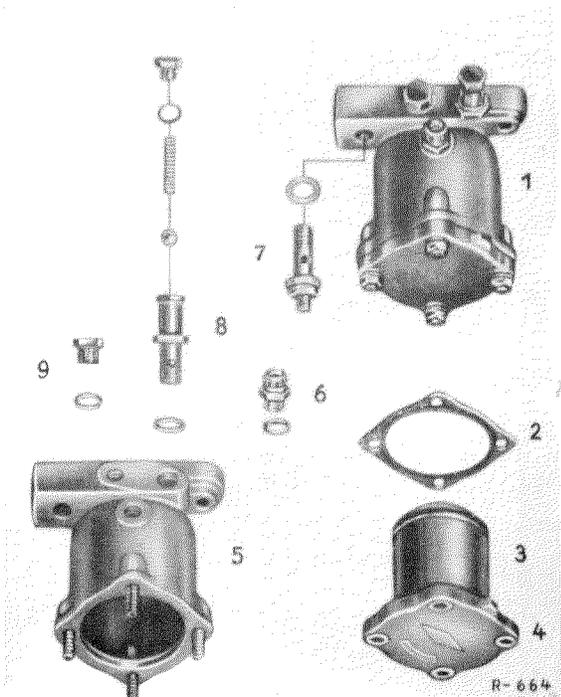

Figure 18-9/4
2. Remove the metal filter element (3) from the housing cover (4) (Figure 18-9/4). For this purpose loosen the fixing nut at the bottom ring and remove this ring and the metal filter element from the housing cover.